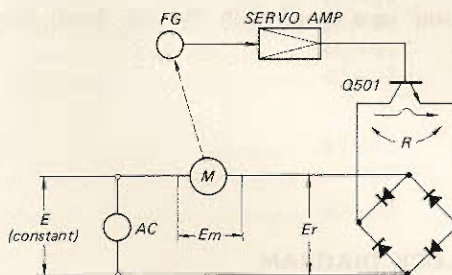

Fig. 1-2. Q501 for resistance R
The frequency generator (FG), built in the motor, is used to detect the motor speed variation. The servo amplifier changes the resistance referring to the deviation. As the resistance  $R$ , the impedance  $R$  between the collector and emitter of the transistor (Q501) is used. See Fig. 1-2. The impedance  $R$  is varied by the base voltage. The constant motor speed can be obtained by varying the base voltage according to the motor speed deviation. The bridge type rectifier, consisting of the four diodes,